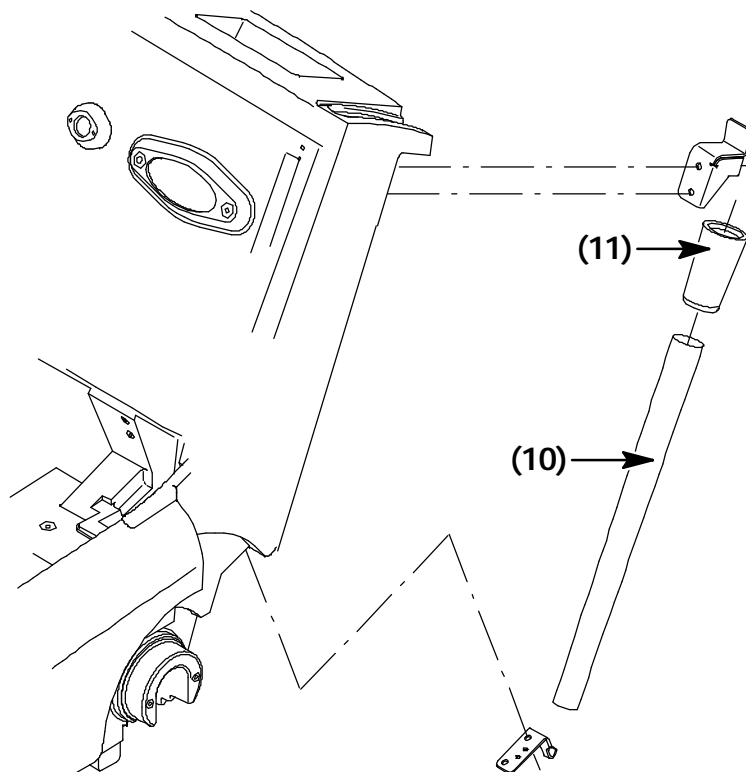

FIG. 4 Vacuum Wand Attachment Parts
28. Install the vacuum wand coupling (11) to the wand extension (10) as shown. Install assembly to existing brackets. (Refer to FIG. 4)